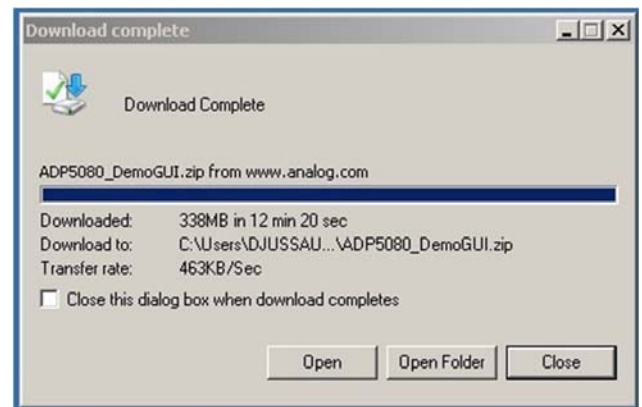

Figure 11. Download complete Window
4. When the download completes, click **Open Folder** to open the **ADP5080_DemoGUI.zip** folder (see Figure 11).